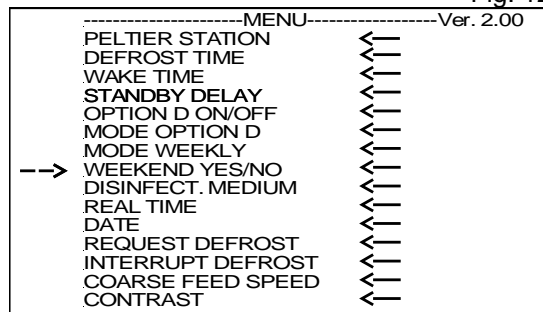

Fig. 124
- Press the enter button (fig. 116.10) to select the submenu (fig. 124).